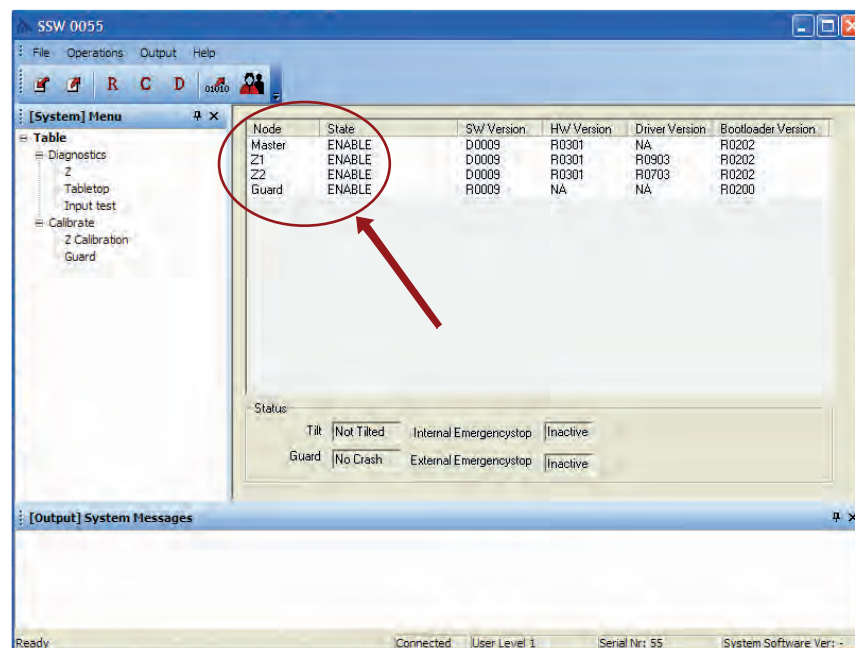

Fig. 4-149 SSW 0055
9. Verify that all nodes are in enable state, see Fig. 4-149 *SSW 0055*.